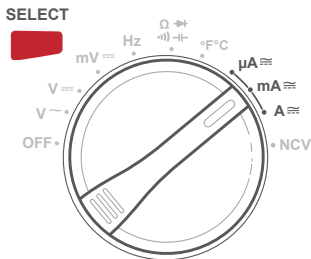

Figure 7.1
1. Turn the rotary dial to the appropriate DC/AC current position. Press **SELECT** to choose AC or DC current test. [Figure 7.1]